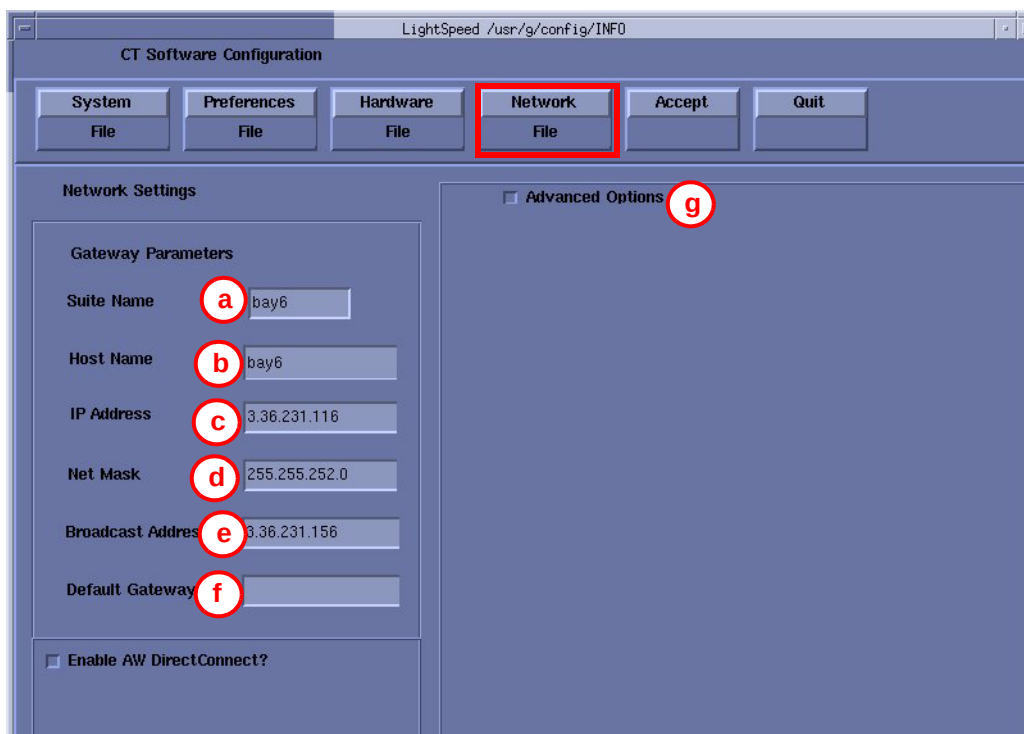

Figure 5-15 Network Settings Screen
- 10.) Select the NETWORK button to display the Network Settings Screen as shown in Figure 5-15.